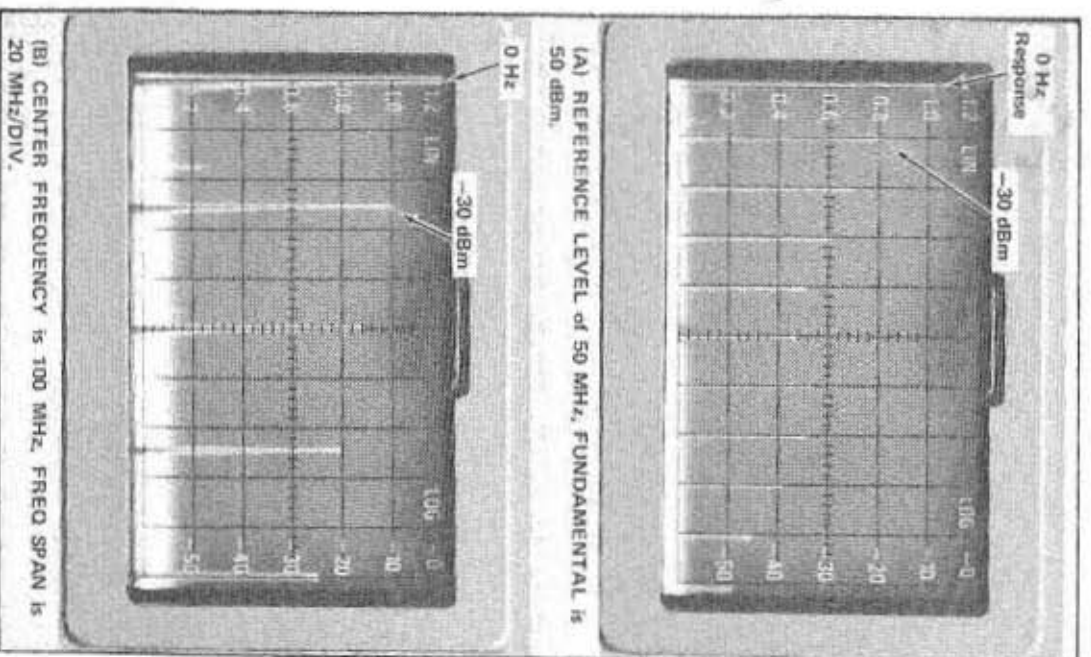

Fig. 2-5. Display of the Calibrator signal showing 0 Hz and 50 MHz picket fence. Frequency span for (A) is 50 MHz/DIV, (B) 20 MHz/DIV.
b. Press the Calibrator ON pushbutton and adjust the IF GAIN for a display of approximately 3 divisions. Display should contain a picket fence of 50 MHz markers across the spectrum plus a 0 Hz response at the left edge of the display (see Fig. 2-5).
- With the FREQ SPAN MHz/DIV selector in SEARCH position and the VAR control pushed in (CAL), adjust the Horizontal Position and Gain controls on the companion oscilloscope to position the 500 MHz marker on the 10th graticule line and the 0 Hz signal on the 0 graticule line (see Fig. 2-5). Display should now contain 50 MHz markers at each graticule division.
The CAL OUT connector is an accurate 50 MHz signal source with a power level of -30 dBm. This signal source is activated when the CAL button is depressed. Connecting this signal source to the INPUT 50 Ω connector supplies a 50 MHz picket fence on the display with the fundamental (50 MHz) signal at an amplitude reference level of -30 dBm. The picket fence of 50 MHz markers can be used to check frequency span and center frequency accuracy and the 50 MHz fundamental signal can be used to establish a reference level on the graticule (see Fig. 2-5).